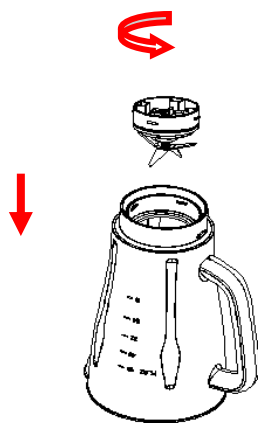

Fig.3
1) Invert the jar onto a level surface, holding the jar handle, put the the seal ring 2 and blade assembly onto the jar base bottom and secure the blade assembly by turning it anti-clockwise until tight (See Fig.3)